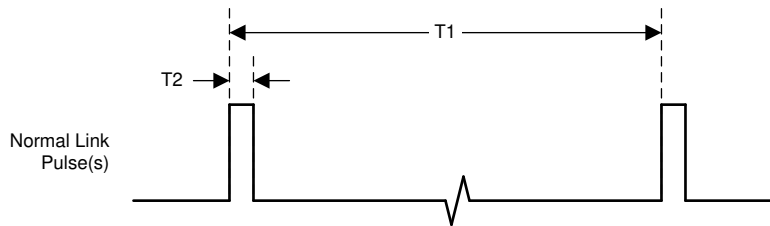

Figure 7-13. Normal Link Pulse(s) Timing
- (1) Ensured by production test, characterization or design.
(2) See Figure 7-13.